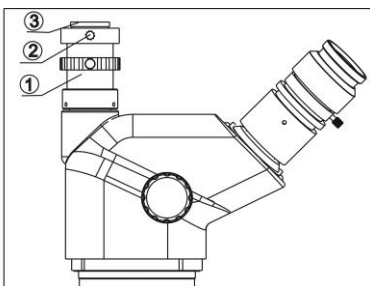

Figure 9
- (1) Screw video tube ① into M28 hole of tri-tube. (Fig. 9)
- (2) Loose the lock-screw ② on TV tube, and take off the C-mount ③ from tube.
- (3) Screw the C-mount into video camera.
- (4) Connect the video camera with TV tube and lock by screw ②.